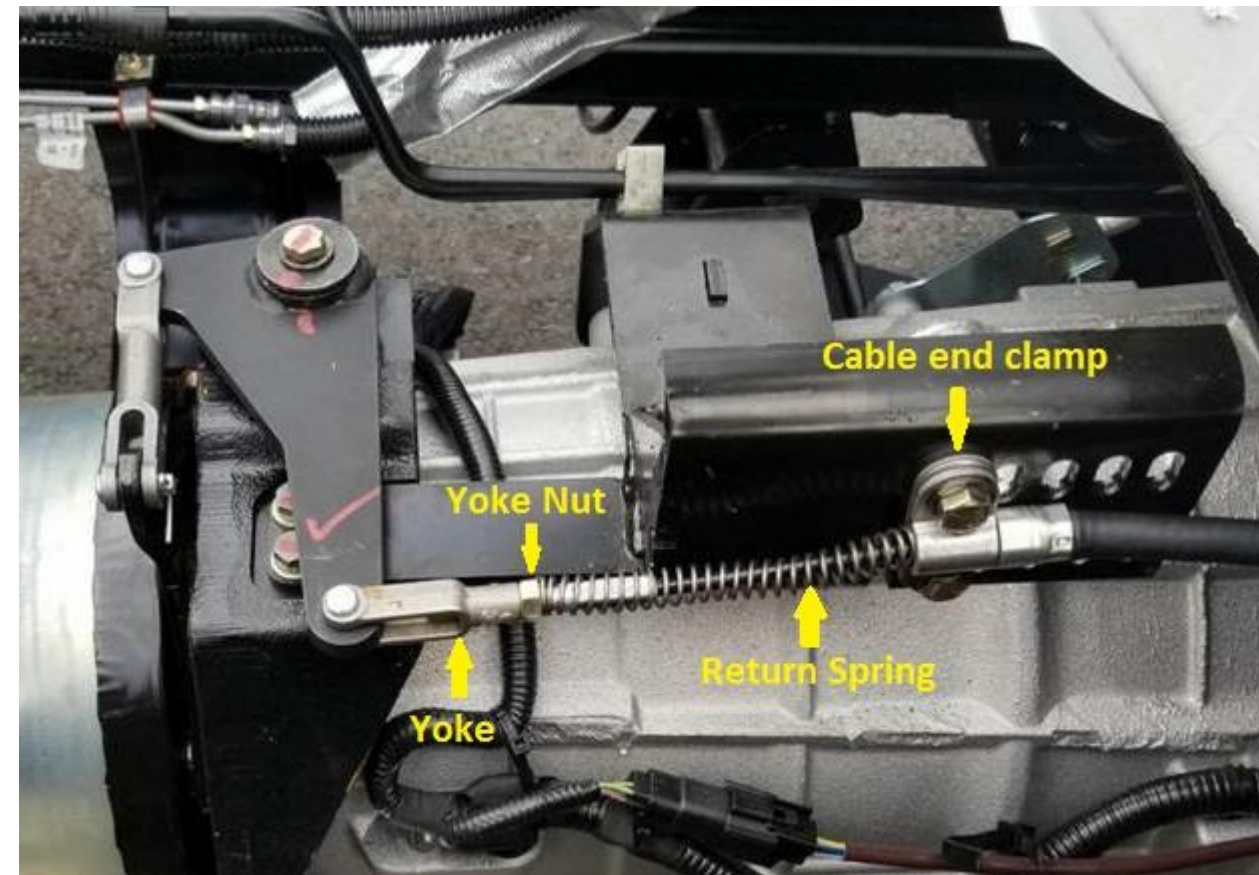

Figure 6 – Return Spring Installation
1. Locate where the parking brake cable attaches to the bellcrank at the parking brake drum (See Figure 6 ).